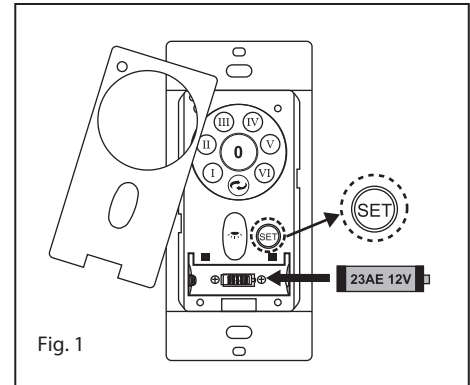

Fig. 1
1 Insert the receiver into the ceiling mounting bracket with the flat side of the receiver facing the ceiling. (Fig. 1) For best performance, make sure the Black Antenna, on the end of the receiver, remains extended and not tangled with any of the electrical wires.
- 1 Aligning all 3 holes in LED Assembly with 3 holes in the Mounting Hub make sure all screws are tight (Fig.1)
- 1 Remove the existing wall plate and the old switch from the wall outlet box. (Fig. 1)
Follow the below steps to use the set button. (Fig. 1)